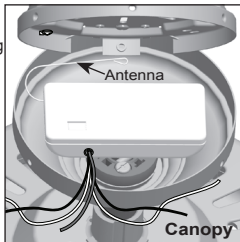

Figure 4
**Canopy Hanger (Figure 4):** Place receiver in canopy. Connect wiring as shown in Figure 4. Extend antenna through one of the ceiling plate openings (approximately 3-6").